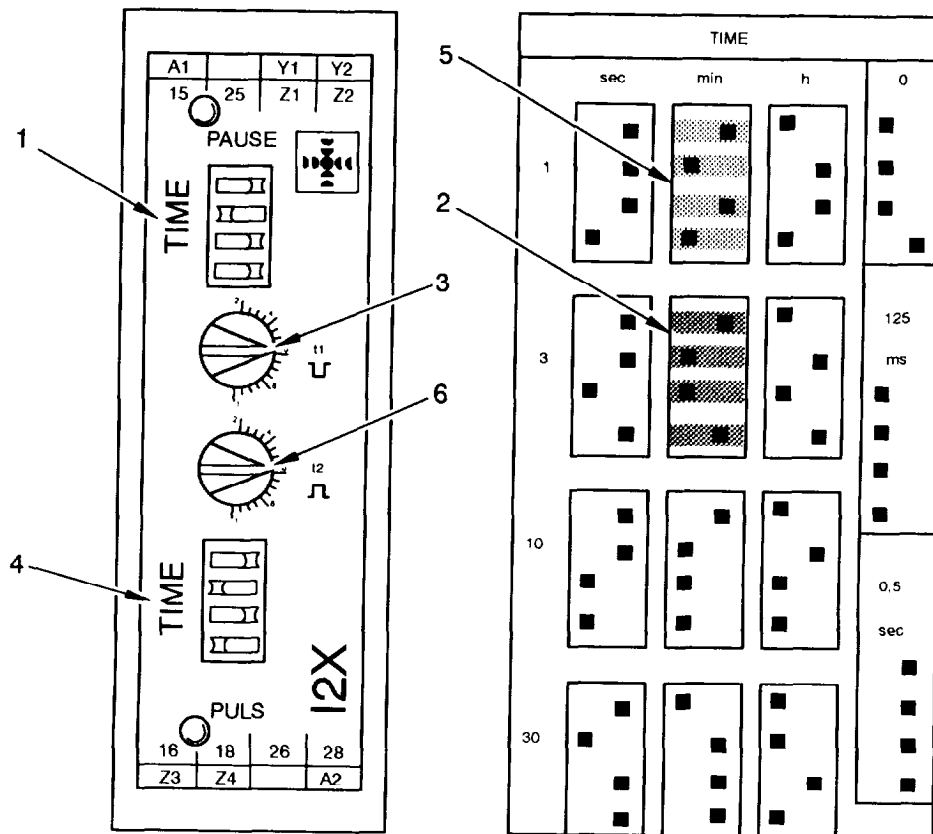

Figure 5-33 Time Relay K106
1. Set time relay K106 (27) to switching time time 1 = 108 seconds and time 2 = 60 seconds:
On front of time relay K 106 (27), use TIME DIP switches (1) to set a time window of 3 minutes as shown in figure 5-33.
On front of time relay K 106 (27), use TIME DIP switches (4) to set a time window of 1 minutes as shown in figure 5-33.